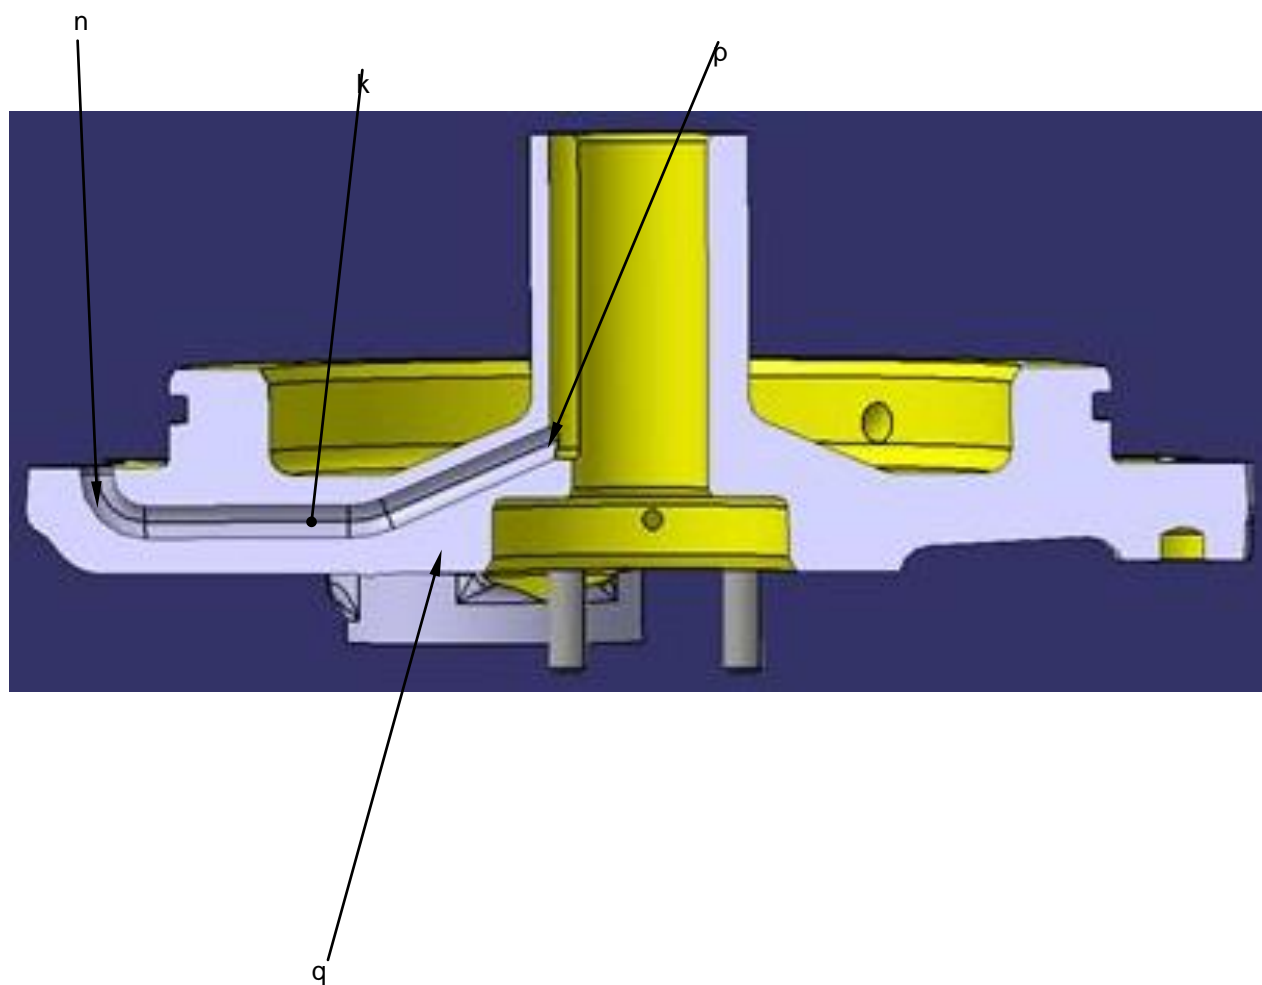

Figure 3
- Remove any foreign objects visible from the oil duct (k) (Figure 3, Section E-E).
- Connect the hose (xx) to the end (n) of the oil duct (k) of the TGB cover (q) (Figure 3, Section E-E).
- Make sure that the operating oil flows from the end (p) of the oil duct (k) of the TGB cover (q) (Figure 3, Section E-E).
- .. Replacer the bearing (m) (not shown) of the TGB control rod with a new bearing (1) (not shown) as per Work Card 65-21-00-702 (MRM) or Task 65-20-01-961 (AMM).